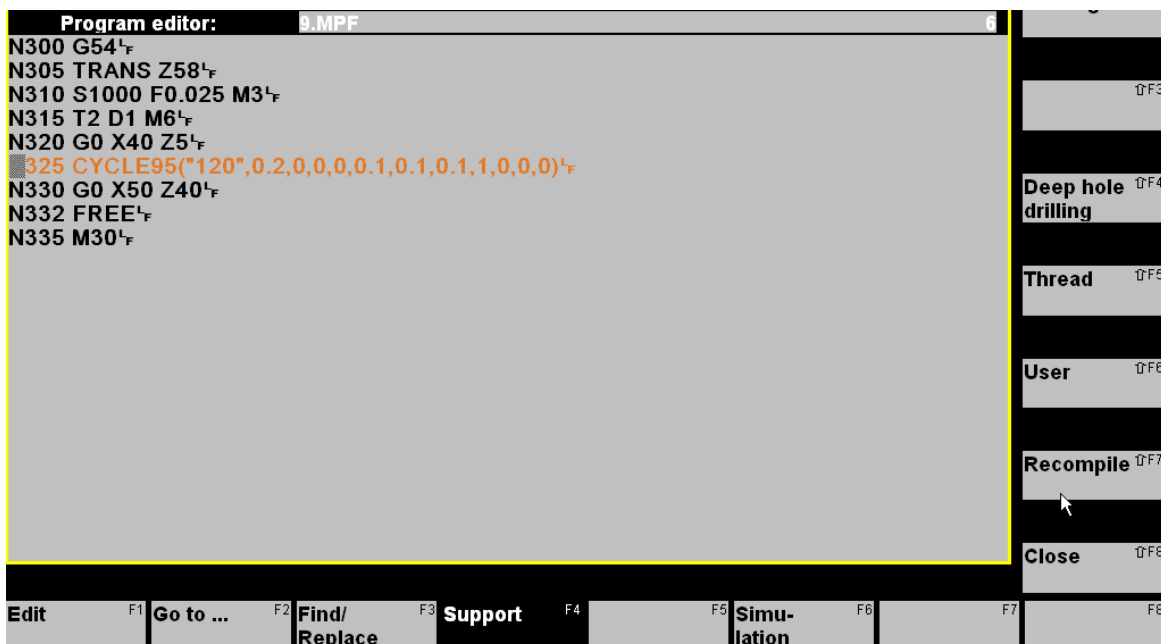

Fig.6.23: Shows the Recompile button in the program editor.
34. Click on “**Recompile**” as shown in Fig. 6.23